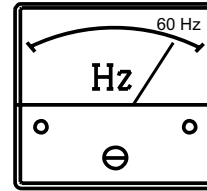

Figure 44. Frequency Meter
- The generator's **frequency meter** (Figure 44) should be displaying the 60 cycle output frequency in **HERTZ**.